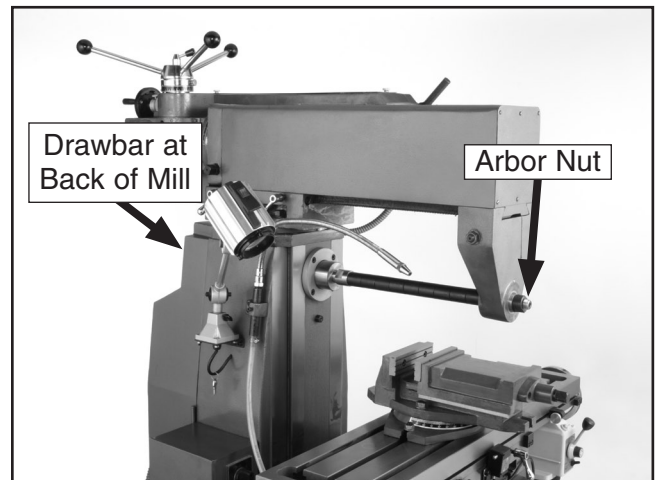

Figure 21. Horizontal spindle with arbor loaded.
5. Insert the arbor, with the cutting tool already loaded into the spindle (see **Figure 21**).